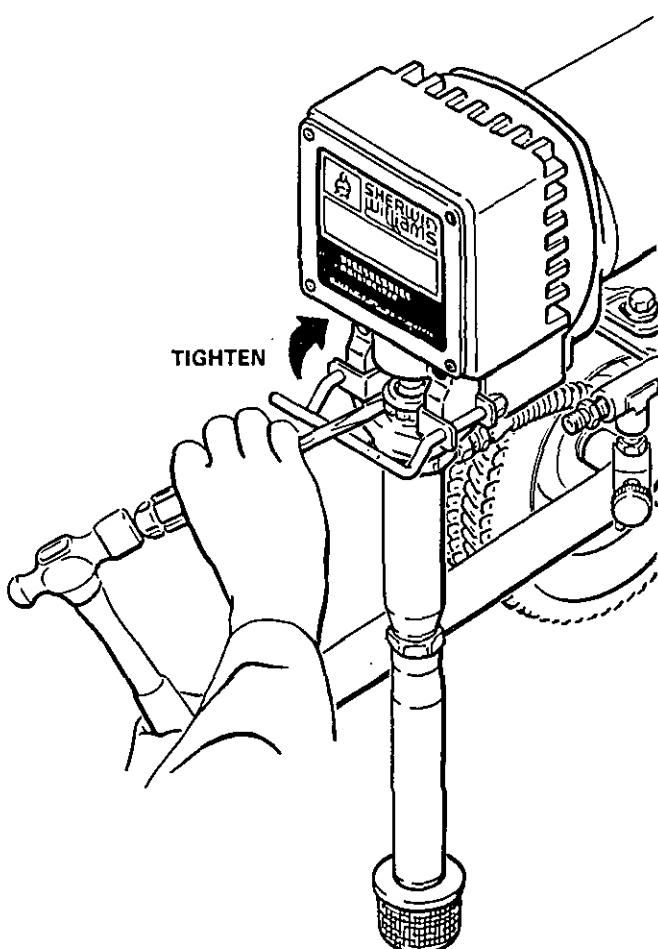

Fig 5
1. Check the packing nut/wet-cup daily. First follow the **Pressure Relief Procedure Warning** on page 10. Be sure the wet-cup is 1/3 full of TSL at all times to help prevent paint buildup on the piston rod and premature wear of packings. The packing nut should be tight enough to stop leakage, but no tighter. Overtightening may cause binding and excessive packing wear. Use a screwdriver and light hammer to adjust the nut. See Fig 5.